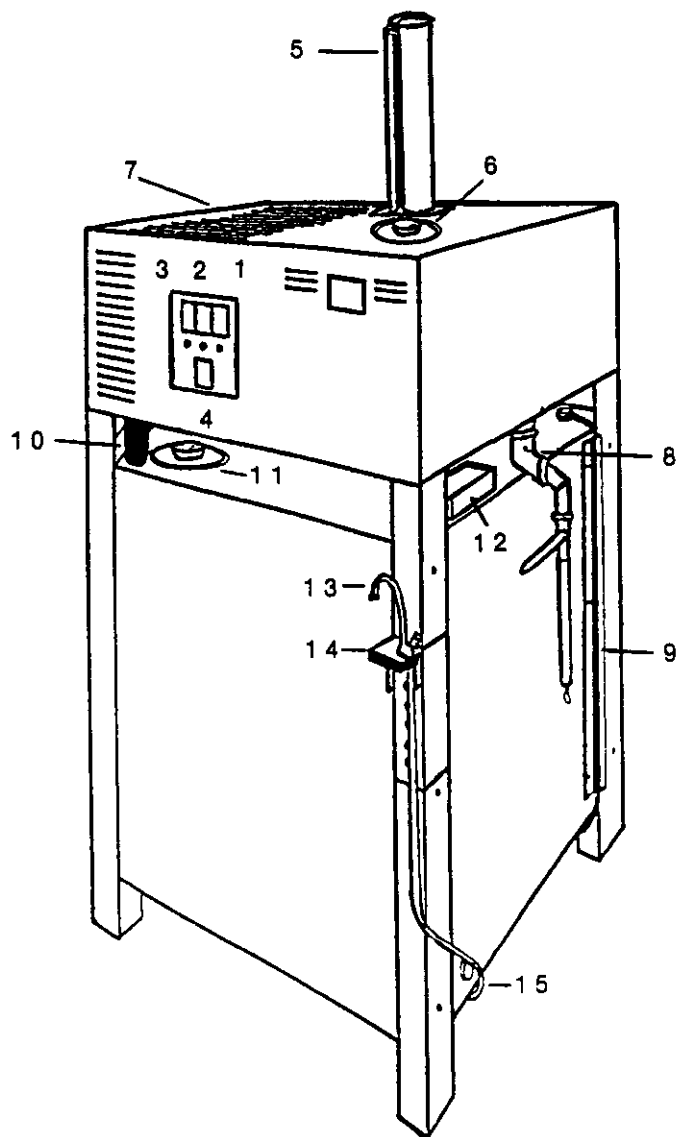
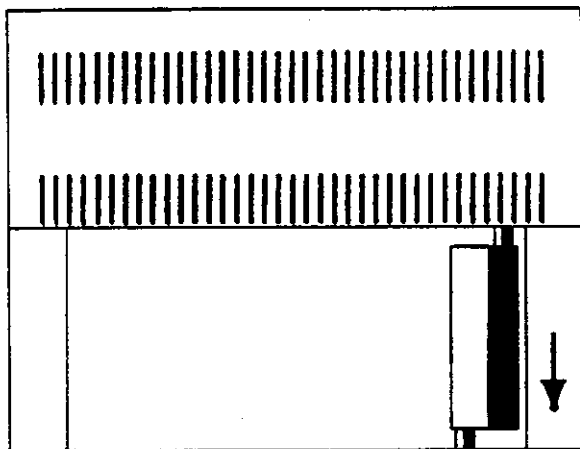

FIGURE 3 - A
FIGURE 4
9. Install the 1 in. impurities drain valve assembly. It is suggested that a pipe wrench be used with another for a backup tightener. Make sure there is Teflon tape on the first three threads. Refer to **Figure 4**. The stainless steel steam tower is then mounted on the rear centre of the top of the unit. *Do not over-tighten the nuts.* Refer to **Figure 3, No. 5**.